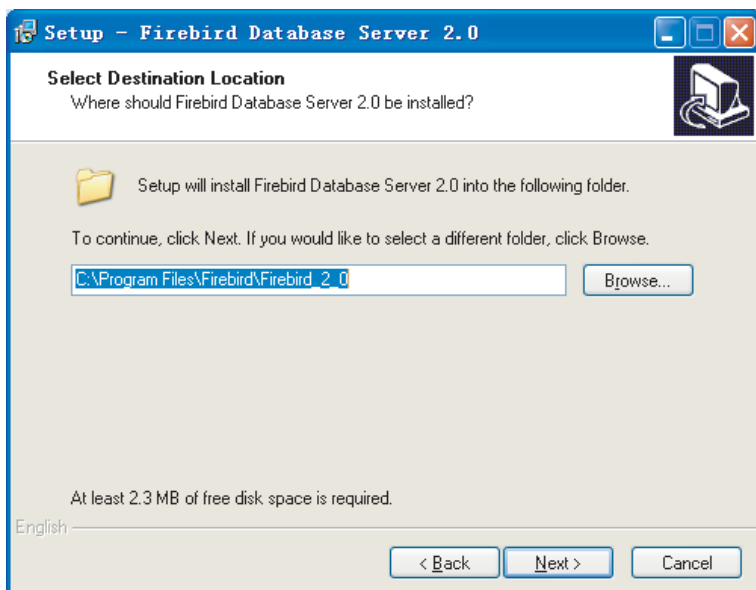
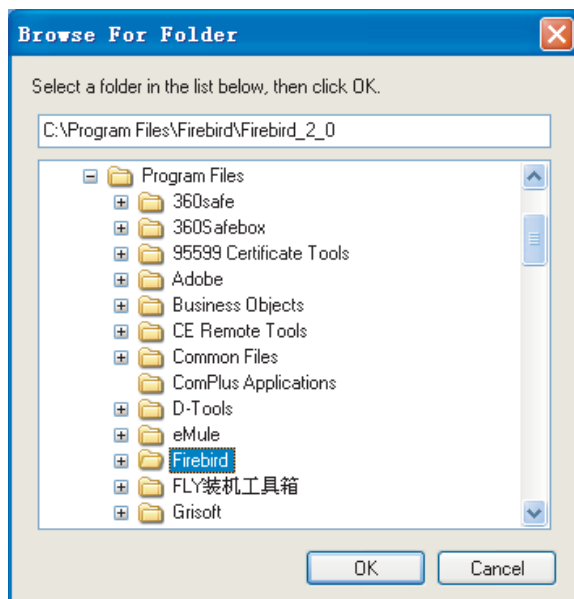

Fig.2-5
Fig.2-6
5) Installation window as Fig. 2-5, click “Browse.....” Key to select the installation address for install the Firebird database (See Fig. 2-6), and then click “Next” to continue the installation: